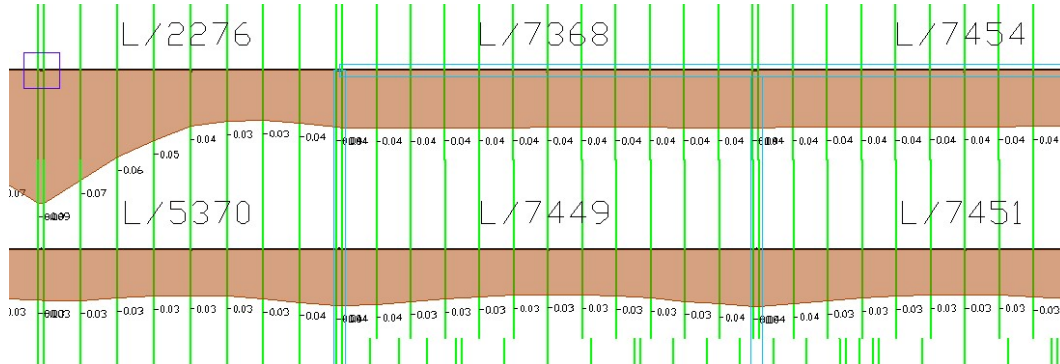

Figure 4.2-8 - Deflection Results Along Support Line
- From **Floor Design | Strip Results/Visibility | Display Graphically**, turn on the support lines in either direction, the program will report the deflection ratio (X/L) for each span as shown in **Figure 4.2-8**. Note also that the deflection value for each design section is shown. The same display of results can be produced for any action (i.e. moment, shear, axial) when the result to be displayed is set for an **Action** and the **Display Graphically** tool is active.